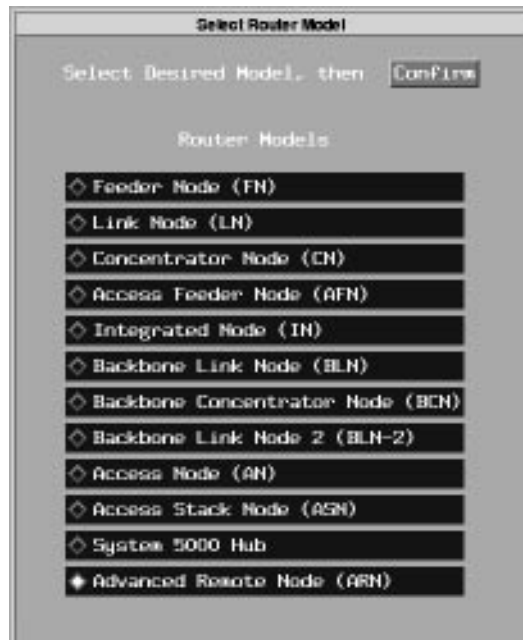

Figure 12. Selecting the ARN Router Model
2. Select Advanced Remote Node (Figure 12).